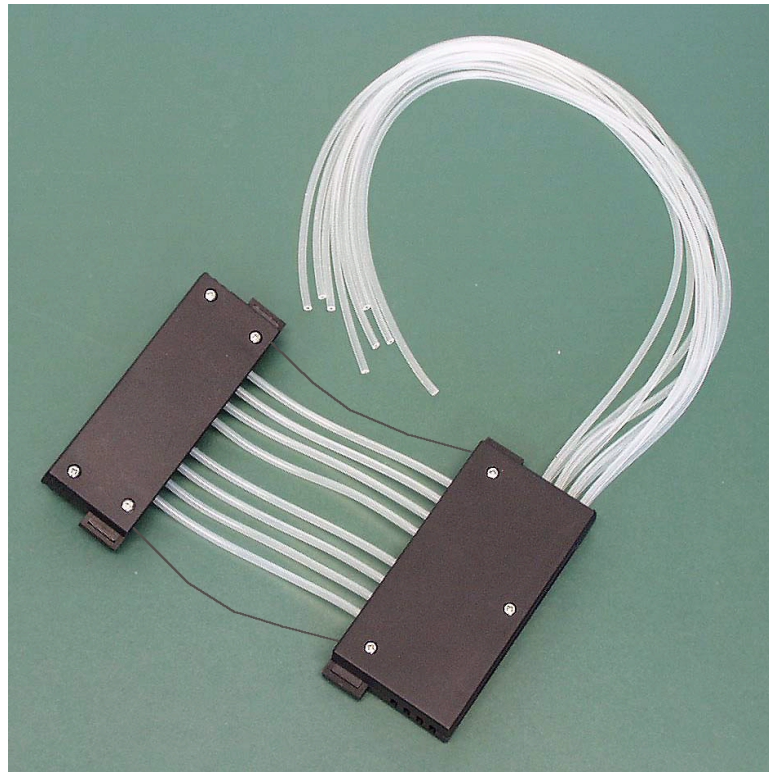

Fig. 7.31 Lower and upper part of the dispensing cassette fitted
16. Fasten the front cover retaining screw (*Fig. 7.31*).